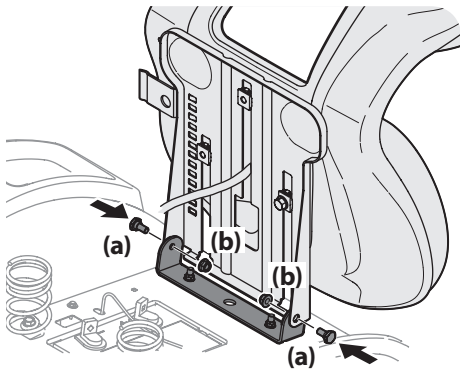

Figure 2-3
3. Rotate the seat into position and secure the seat into place with the previously removed shoulder screws (a) and flange lock nuts (b). Be careful not to crimp or damage the wire harness while installing the seat. See Figure 2-3.